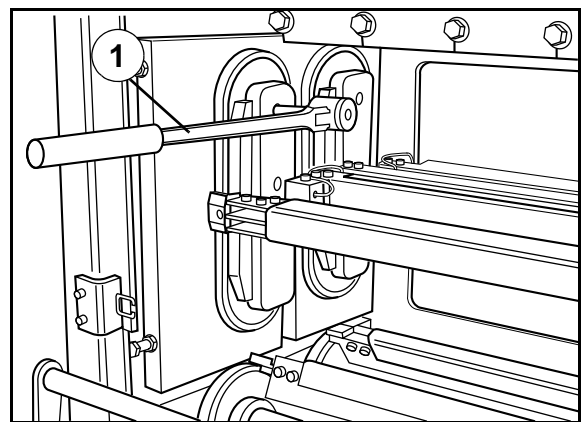

Fig. 34
- 1 Loosen the upper sprocket of the sealing bars. Pry off the sprocket with a pinch bar (tight fit) until the sprocket and chain is movable in the direction of web motion. See Fig. 34.